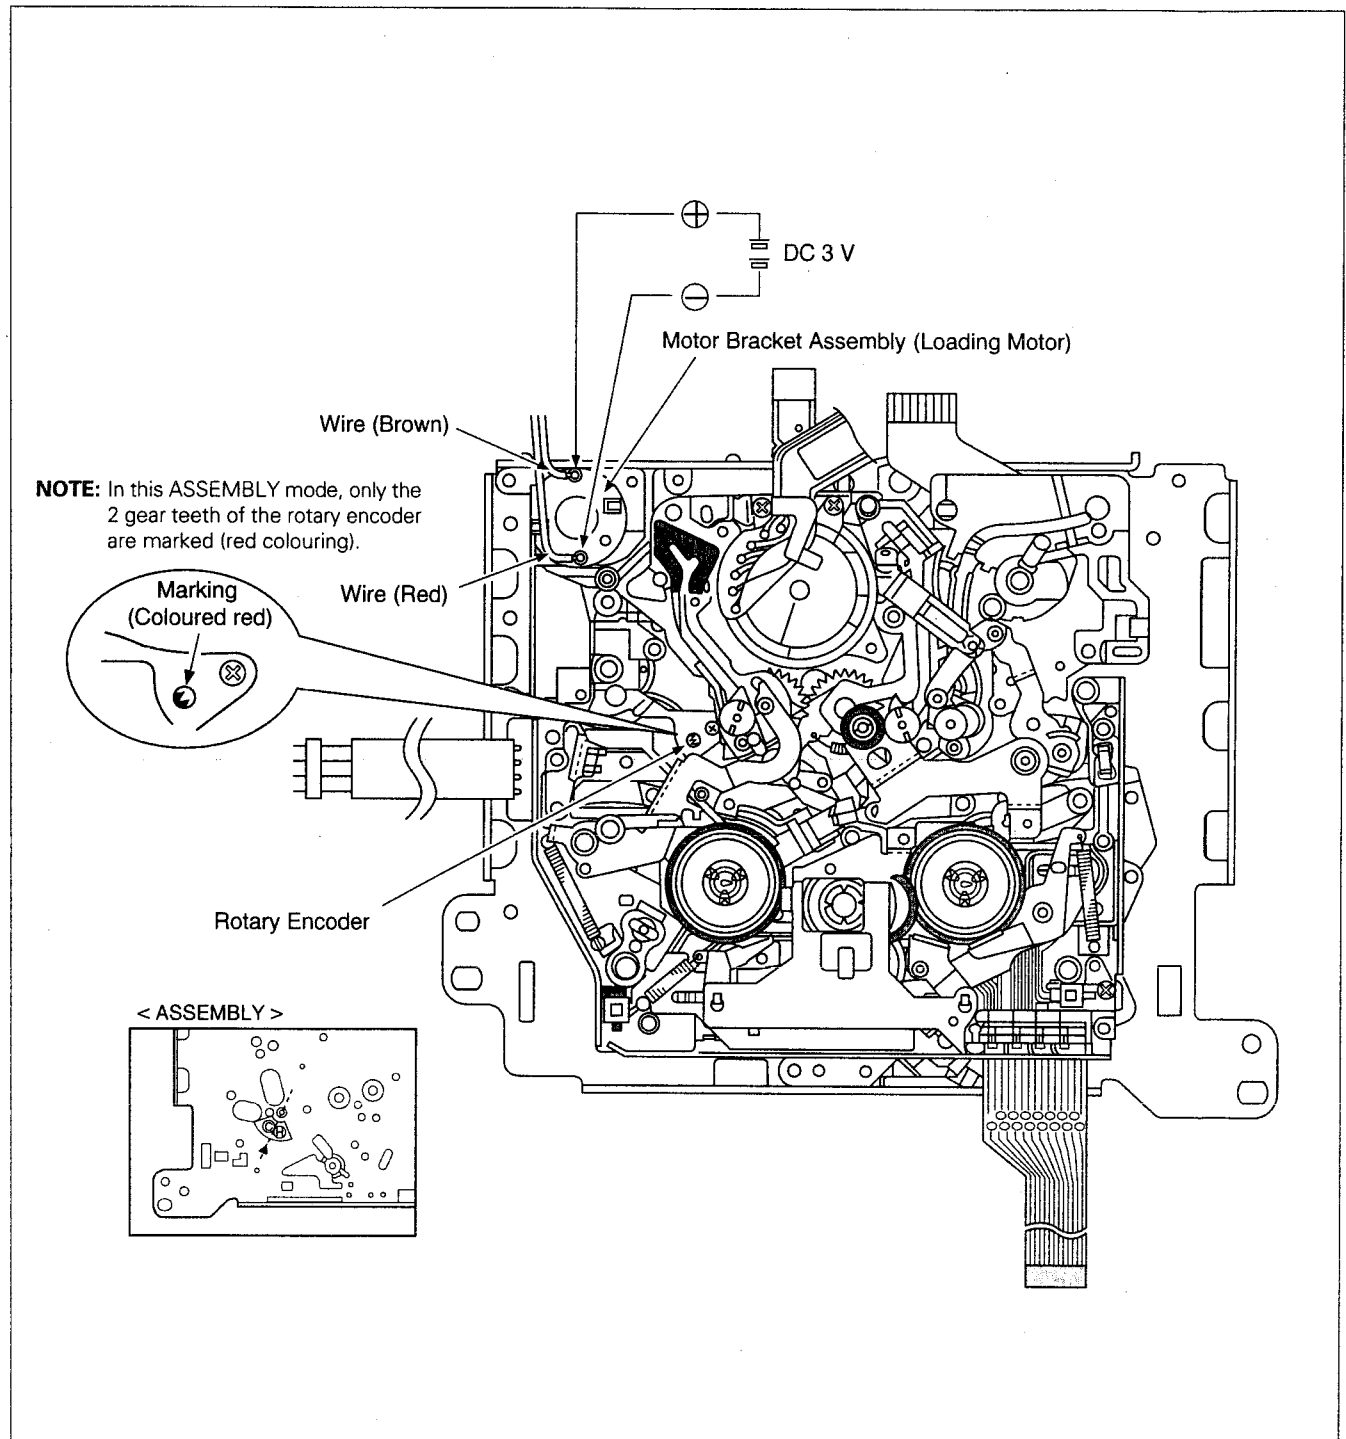

Fig. 2-10-7
To set the ASSEMBLY mode, apply 3 V DC to the electrodes on the upper part of the loading motor as shown in Fig. 2-10-7.
NOTE: This mechanism assembly has another ASSEMBLY mode. However, this mode cannot be identified from the markings because it corresponds to an intermediate position between the C-IN (C) mode and S-FF (H) mode. This mode can be confirmed by the rotary encoder phase. See Fig. 2-10-7.